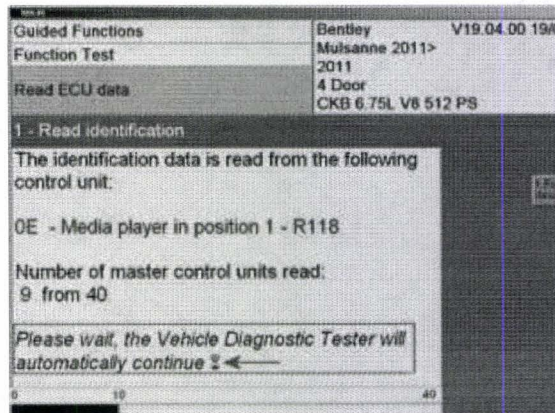

Figure 7
- Follow and observe the screen prompts – Pause at *Please wait* prompt and allow all control modules to be identified (see Figure 7)